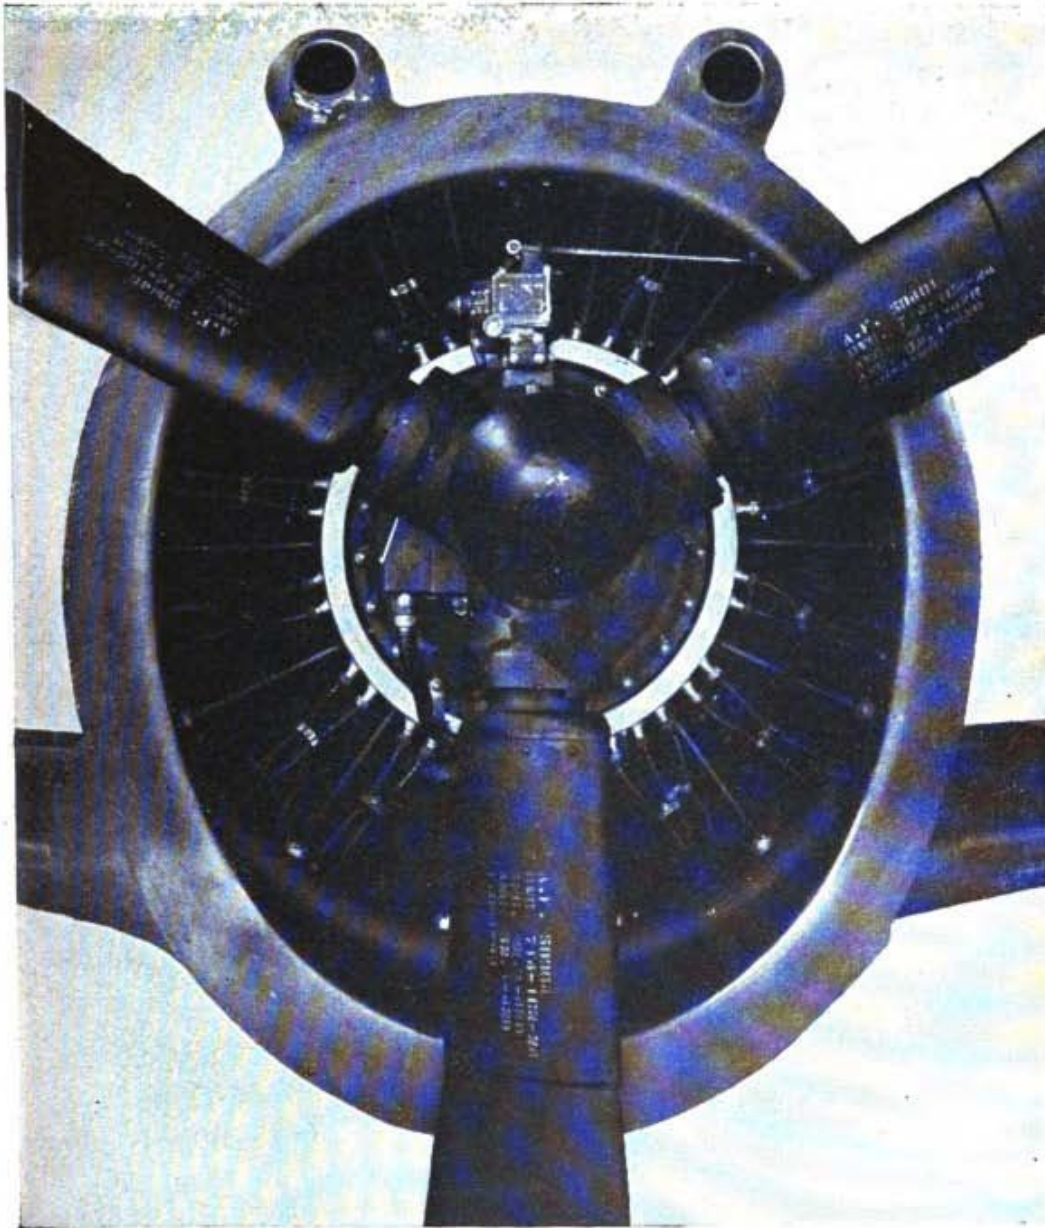

Figure 36. Propeller-blade cuffs.
(1) When adjusting the throttle for warm-up, the engine will not be permitted to exceed one-half of the maximum permissible ground rpm until the engine maintains, without fluctuation, at least two-thirds of the minimum full-power oil pressure, and the oil temperature gauge shows a definite increase, thereby indicating that the oil is circulating properly. A cold engine should never be raced in an attempt to shorten the warm-up period.
(2) When operating high-output aircraft engines, it is necessary to operate at a high enough speed to prevent oil fouling of the spark plugs. Operation at very low idling speeds does not allow the engine to develop enough heat to burn the oil entering the combustion chamber.
(3) Tightly baffled engines quickly reach excessive engine temperatures when operated at a high ground rpm. This will cause high oil temperatures which may cause sticking pistons and rings.
(4) A radial type engine is dependent upon the forward motion of the airplane for sufficient cooling. When an engine is operated on the ground, the flow of air is very much reduced and may possibly reverse at some engine speeds. Unless the power output and warm-up time are limited, the cylinders will overheat. During prolonged ground operation, the ring cowlings should be removed. If the installation is equipped with cowling flaps, they should be in the FULL OPEN position. Propeller cuffs, as shown in figure 36, streamline the root of the blade, reduce drag, and increase engine efficiency by forcing additional cool air over the cylinders.